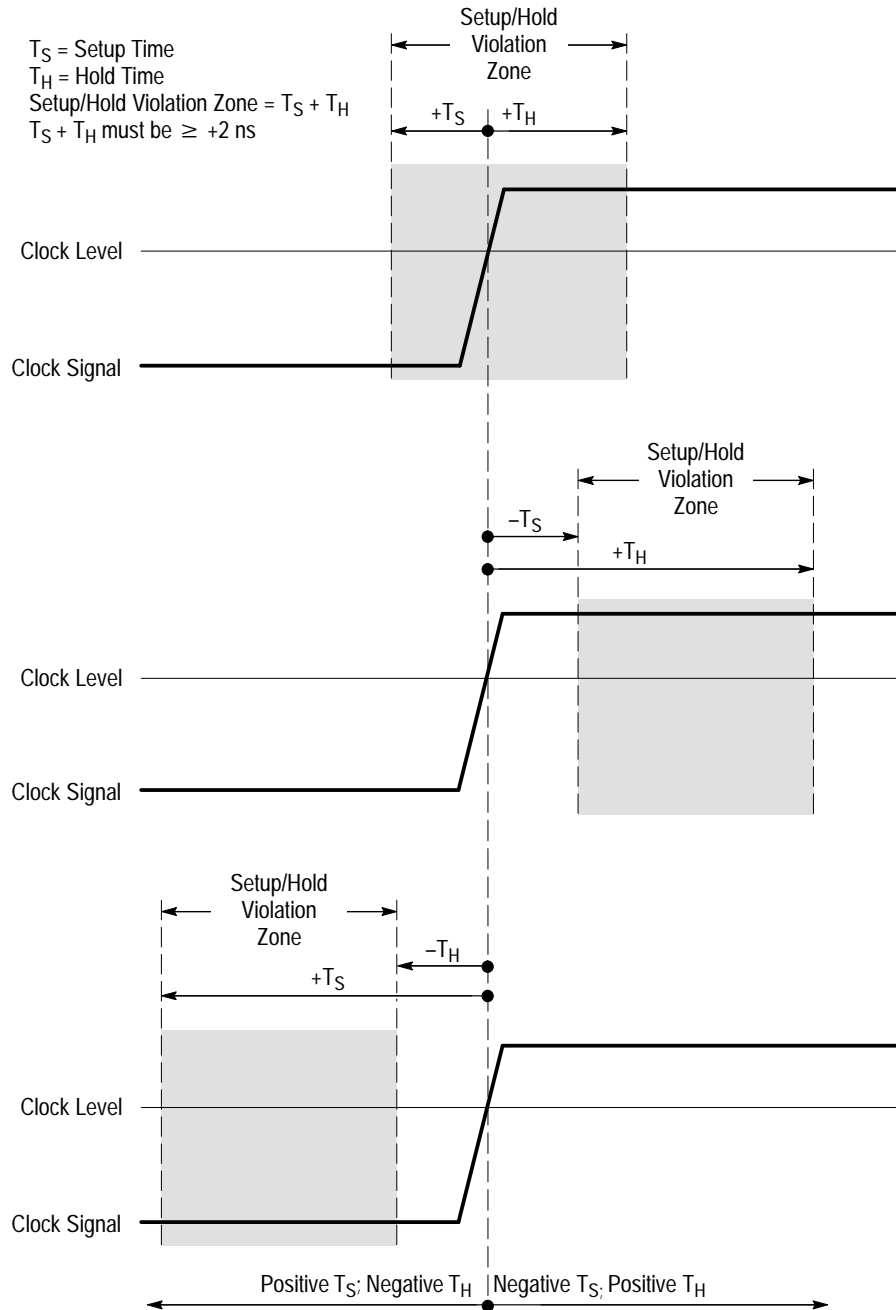

Figure 3–38: Violation Zones for Setup/Hold Triggering
*Positive* settings for both setup and hold times (the most common application) locate the setup/hold violation zone so it *spans* the clocking edge. (See the top waveform in Figure 3–38.) The oscilloscope detects and triggers on data that